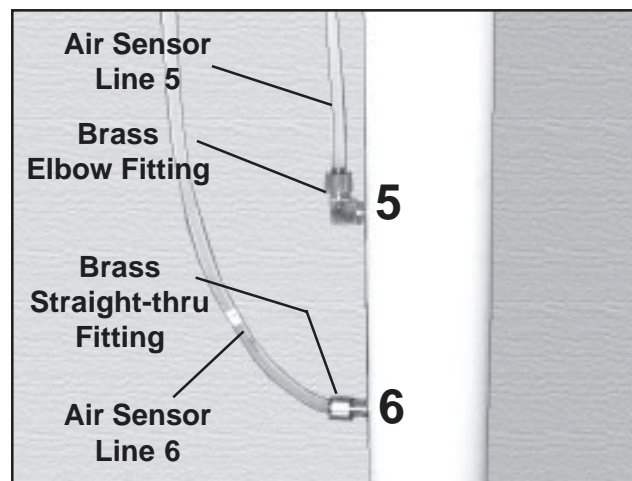

Figure 80. Air Sensor Line Connections on Right Air Intake Pipe
2. With a 7/16 in. open-end wrench, disconnect air sensor lines 5 and 6 from the brass fittings near the lower end of the pipe (Figure 80).
3. Connect the air sensor lines 5 and 6 to the brass fittings 5 and 6 (Figure 80). Tighten the hex nut on each fitting with a 7/16 in. open-end wrench.